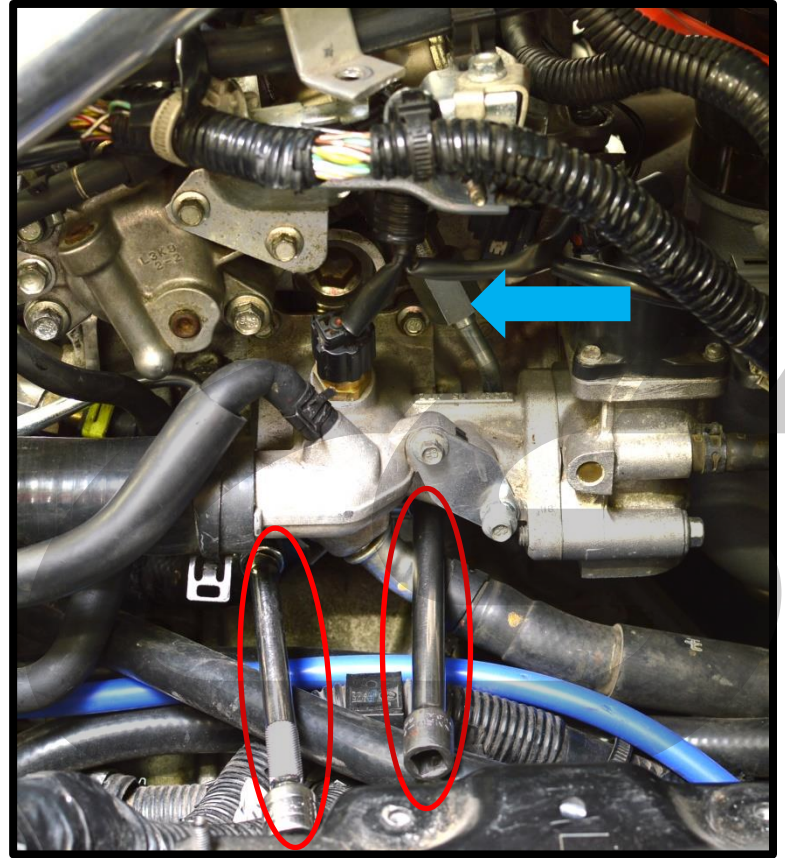
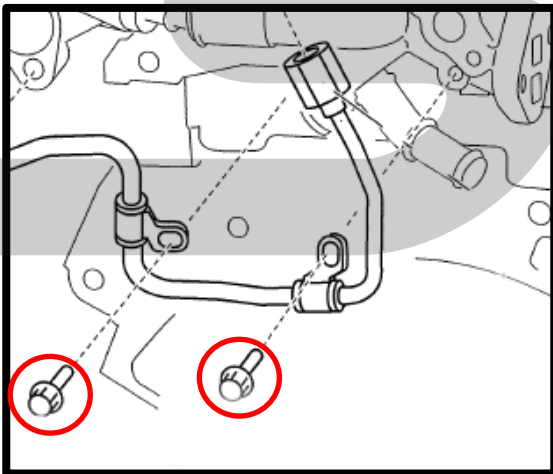
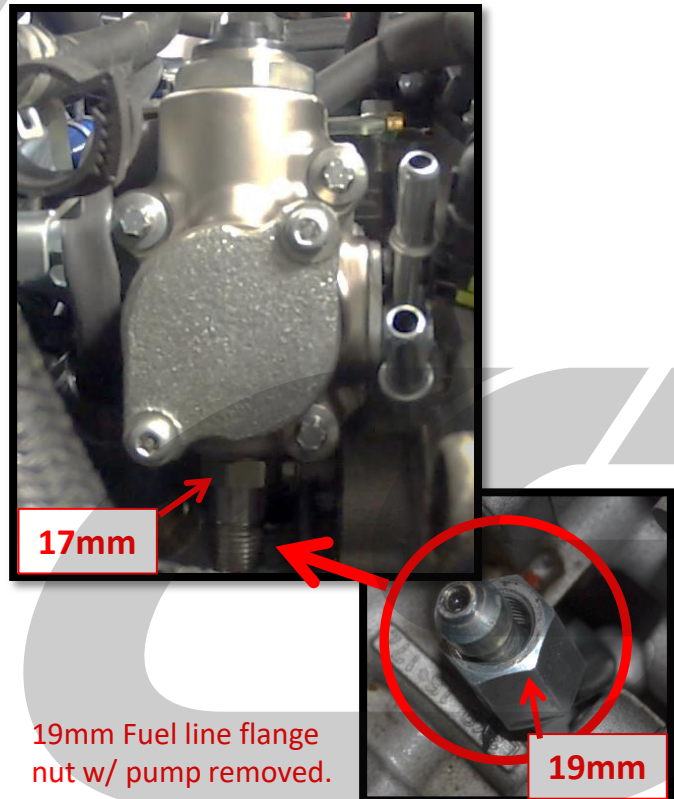

Figure 6a
Figure 6b
Figure 6c
a) Using the 8mm socket, extension and ratchet to remove two 8mm bolts holding the high pressure fuel line. Bolts locations show with 3/8" extensions (circled in red in Figure 6a and Figure 6b).
b) Place a rag around and under the high pressure fuel line nut to absorb fuel. Loosen 19mm nut holding HP fuel line to the fuel pump (shown with the blue arrow in Figure 6a). Use a 17mm wrench to hold the fuel pump then loosen the 19mm nut slightly to relieve pressure, see Figure 6c.